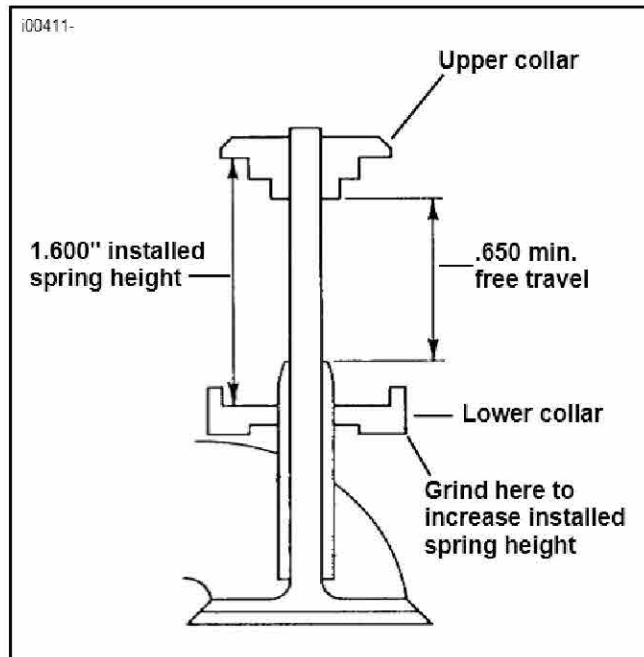

Figure 1. Check installed spring height
4. See Figure 1. Install valves (in original locations), lower valve spring collars, upper collars and collar keys. Check installed spring height. Add shims or remove material from lower collar seat to reach 1.600" installed spring height. Remove upper collar keys and upper collars.